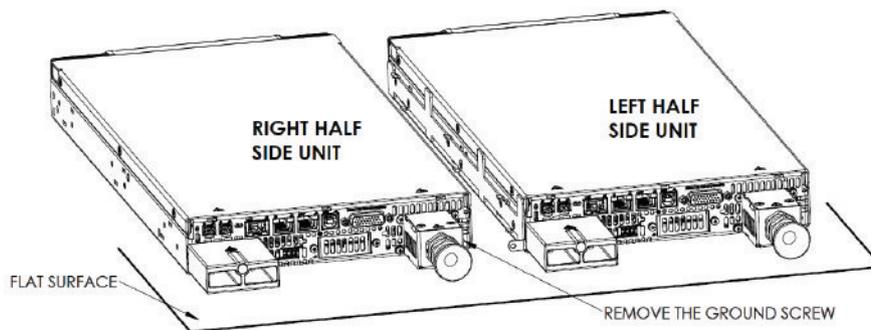

Figure 4-7: Prepare the Units for Assembly
3. Place the two units side-by-side on a flat surface and remove the ground screw of the right half side unit as shown in Figure 4-7.